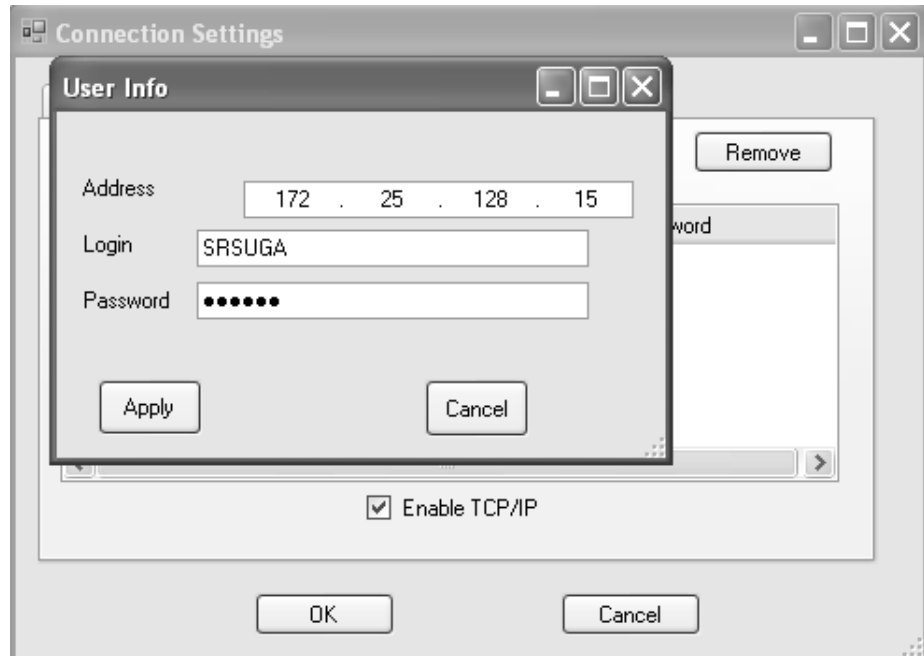

Fig. 2-8. Screenshot of the 'User Info' box for TCP/IP connection.
- Click the 'Add' button. Another dialog box (User Info) will pop up. (Fig. 2-8)